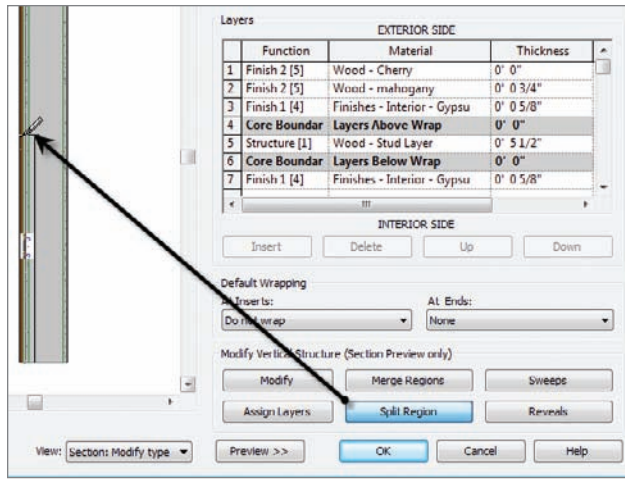

FIGURE 16.6 Cutting the plywood at a specific height
6. Click the Split Region button, as shown in Figure 16.6.
8. Once you see 3'-0" in the temporary dimension, pick the point as shown in Figure 16.6. *Do not press Esc when you are finished!*